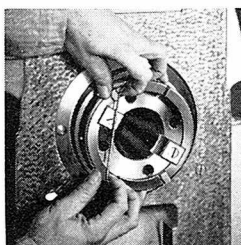

Figure 72B
2. Stretch the adapter spring (Figure 72B) around the split ring, snapping it in the groove designed in these unit parts.